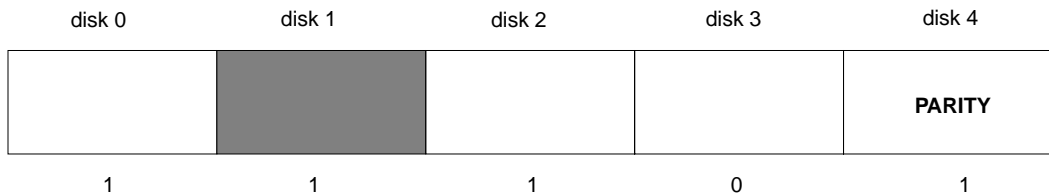

Figure 1-2 Exclusive OR Reconstruction Process Example
- Figure 1-2** Exclusive OR Reconstruction Process Example1-5
that is written to a disk will always be the bit that leaves the array write pattern in a “true” state. The array will only be in a true state if there is an even number of 1’s written to the five disks. Figure 1-2 shows a very simple example of the XOR parity concept. Disk 4 contains the parity bit and disk 1 is a failed disk. For simplification, the bits shown below the disks represent the last bit written in each 2KB stripe written across a disk.
If the array in Figure 1-2 were a RAID 5 implementation, the parity bit could be written to any of the disks in the array. RAID 5 uses a section of each disk as a parity disk and spreads the parity bits across the array. See the following two subsections, Section 1.2.1, “RAID 3 Implementation,” and Section 1.2.2, “RAID 5 Implementation,” for more on RAID 3 and 5.